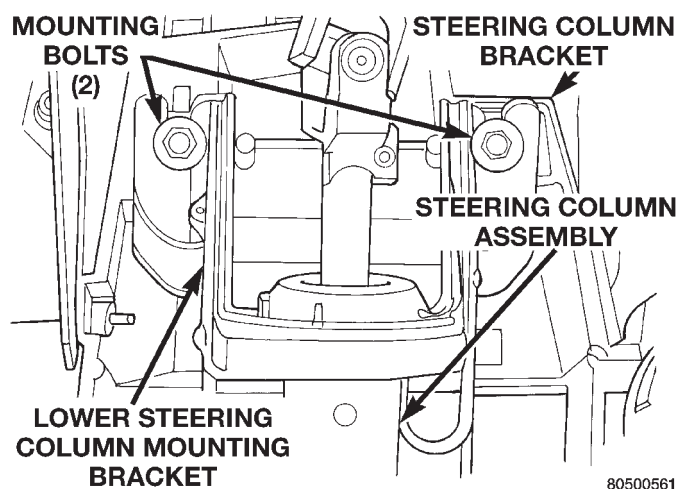

Fig. 27 Steering Column Lower Mounting BracketBolts
(30) Loosen but do not remove the 2 bolts (Fig. 27) attaching lower steering column assembly bracket, to steering column mounting bracket.